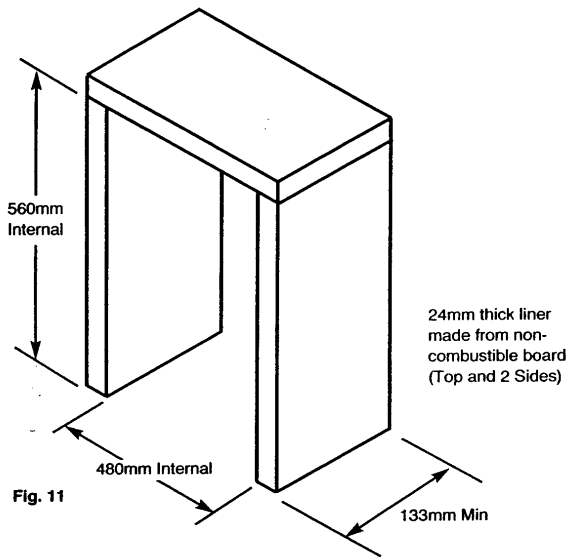
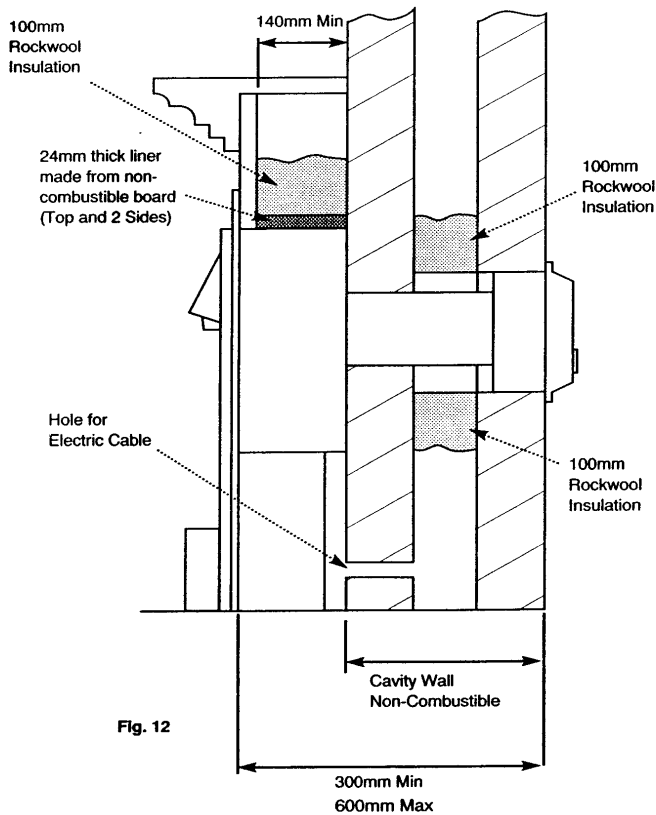

Fig. 11
Fig. 12
3. A suitable liner should be made to enclose the fire (Fig. 11). This should be fitted within the false fire surround. It should be 24mm thick and be of Supalux or similar non-combustible board. If 24mm material is not available two or more smaller boards may be used. It should extend from the outer fire frame to the inside face of the wall. When fitted, this box should be insulated to the top and sides with 100mm of Rockwool (Fig. 12).